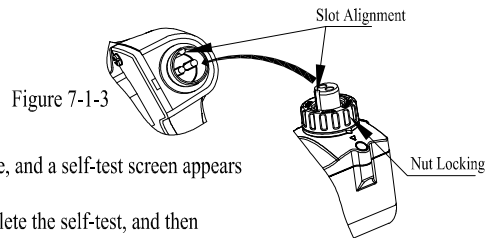

Figure 7-1-3
3. Insert the lithium battery directly into the electric reel socket and lock it with nuts (Figure 7-1-3).